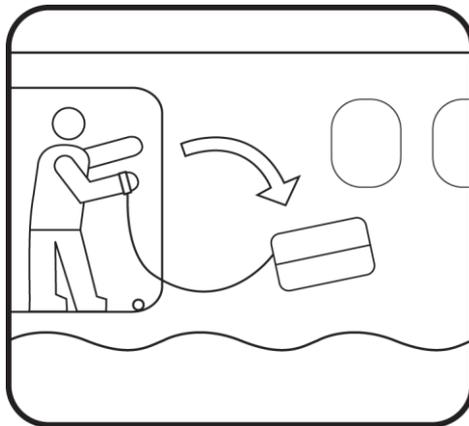

FIGURE 3
5. While still holding the handle, toss the raft valise overboard into the water (See Figure 3). The liferaft will float while still packed in its valise.